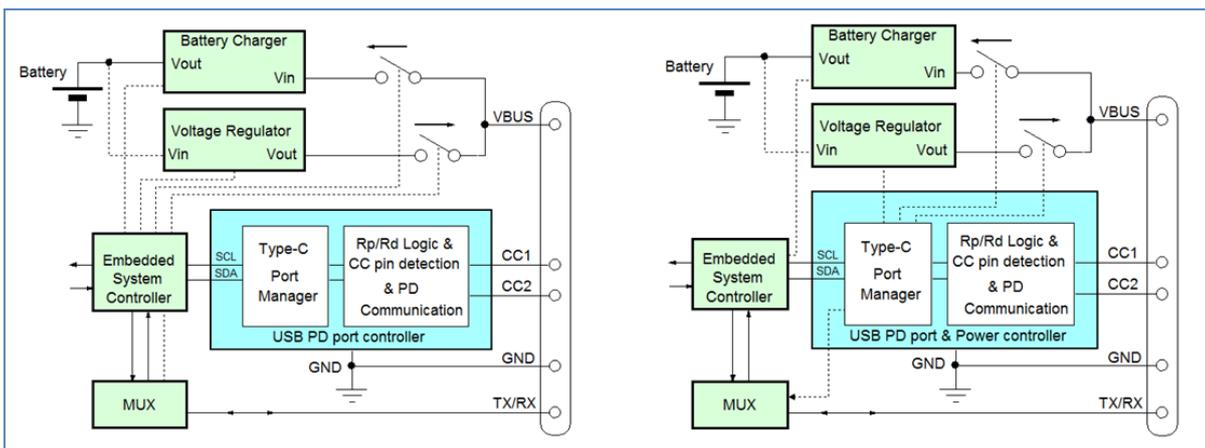

FIGURE 35
All devices include the full type-C transceiver including Rp and Rd resistors. In all cases, the Type-C controller will work in combination with an Embedded system Controller (EC), which communicates with the Type-C controller via I²C bus. Figure 35 shows two possible ways to design a typical DRP solution like a Mobile Phone :
Figure 35 left side shows a DRP solution which makes use of a USB Type-C PD port controller. The controller takes care of all Type C port detection and communication and stores the information in internal registers. The embedded system controller will read the registers and makes the decisions, activating MOSFET switches and controlling voltage regulator for Source role or battery charger for Sink role. In this case the USB PD port controller can be RT1711H, RT1715 or RT1716.
Figure 35 right side shows a DRP solution which makes use of a USB PD Port and Power controller. This controller includes functions like external MOSFET control, voltage regulator control and data MUX control. The embedded system controller still reads the registers and makes the decisions regarding power role, but the commands are all send to the PD power controller which activates the power path and control functions. VBUS Protection functions like Bus over voltage and over current can be executed immediately without EC intervention. In this case the USB PD port controller can be RT1711P.